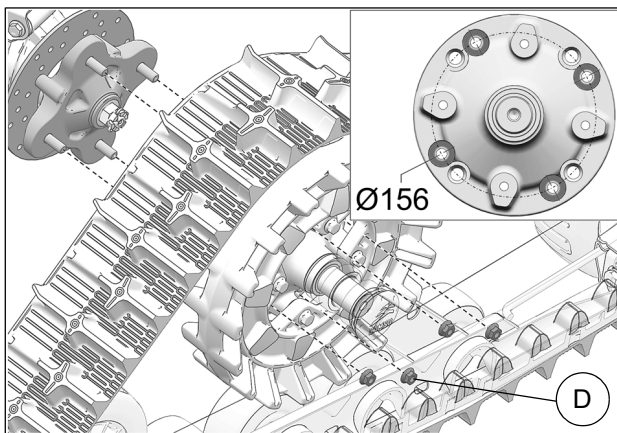

Fig. 10
9. Secure undercarriage to rear hub using the provided 3/8-24 lug nuts (D). Use bolt circle Ø156 mm. See Fig. 10